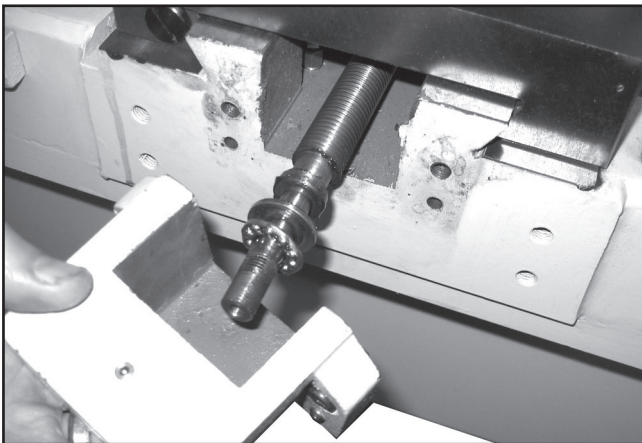

Figure 4. End-cap removal.
4. With one hand ready to catch the race and ball bearing cage, use your other hand to pull the lead screw end-cap off of the lead screw (Figure 4).